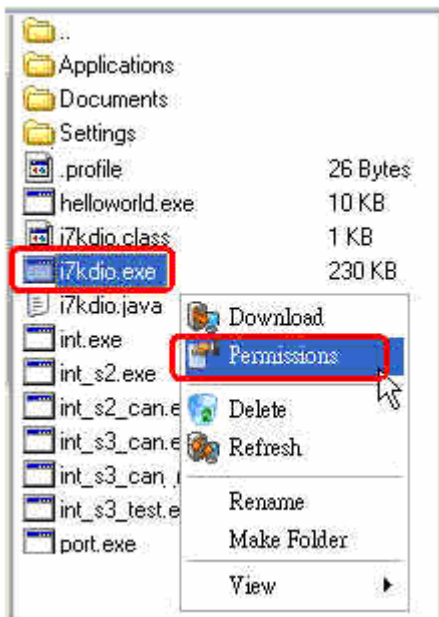

Fig.7-5
Step 3: Choose **i7kdio.exe** in the LP-8x21 and Click the right mouse button to select the **“Permissions”** option for the menu. Enter **“777”** in the Numeric textbox to set the file permissions to readable, writeable, and executable. Refer to FigS.7-5 and 7-6 below for more details.